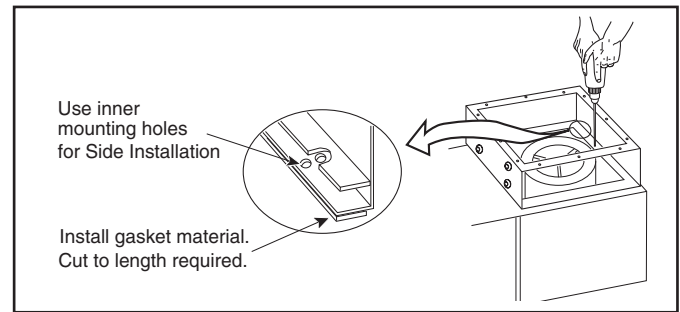

Figure 19 Side Installation Details
2. Install the self-adhesive gasket material on the side of the air cleaner cabinet flange that will mate with the indoor unit. This flange has a double set of holes. See Figure 19.
10. Securely fasten the unit using the self-tapping sheet metal screws provided. See Figure 19.